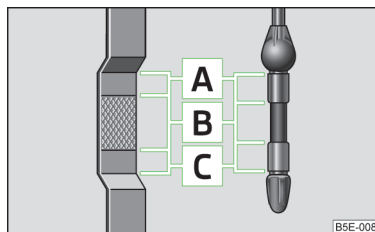

Fig. 177
The dipstick indicates the level of oil in the engine » Fig. 177.
- The oil level must not exceed the range **A** » Fig. 177 – risk of damage to the exhaust system!